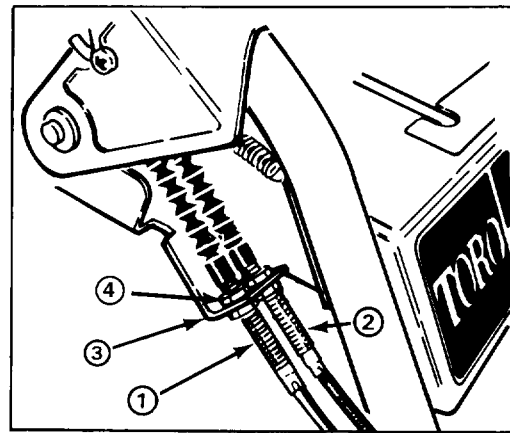

Figure 22
4. Loosen upper jam nut securing auger/impeller cable to mounting bracket (Fig. 22).
5. Rotate bottom jam nut upward to increase belt tension (Fig. 22).
ADJUSTING TRACTION DRIVE BELT (Fig. 22)
8. On control cable which corresponds to belt being replaced, loosen jam nuts securing cable to bracket (Fig. 22). Cable must be free to slide in bracket when changing belt(s).